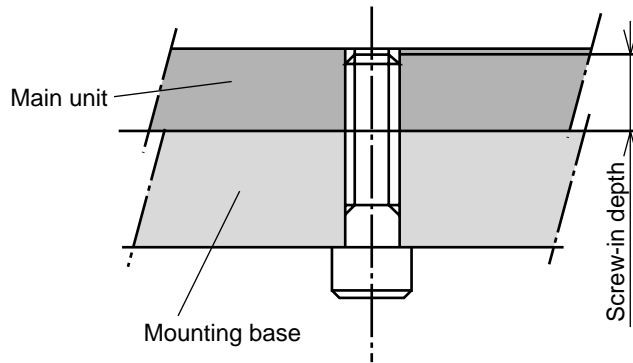

Figure 3-3. Attaching Main Unit Directly to the Base
3. Select the correct size bolts based on the specifications in Table 3-1 and Table 3-2 and attach the main unit to the base as shown in Figure 3-3.